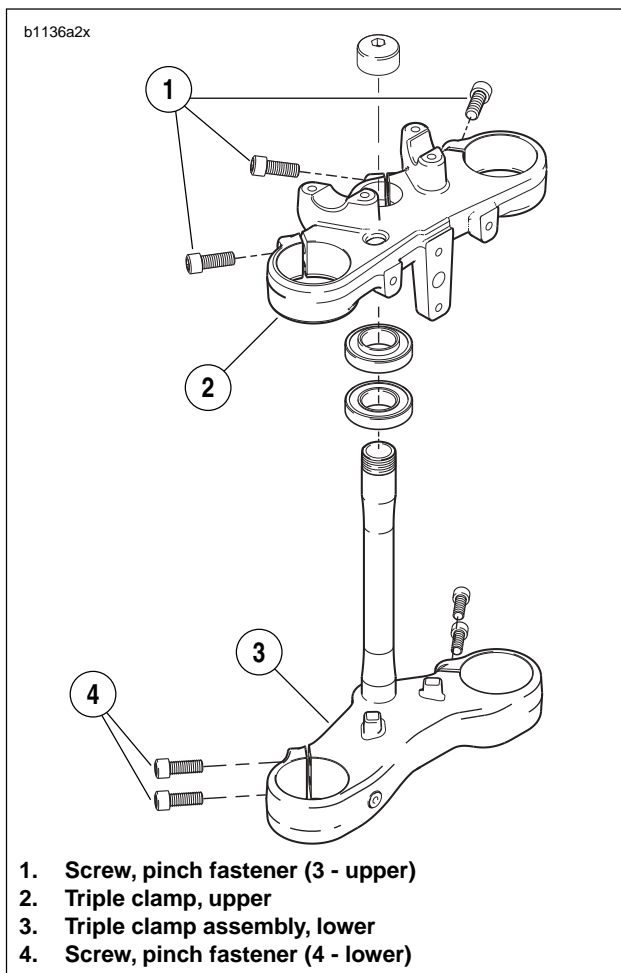

Figure 2-59. Upper and Lower Fork Clamp Assembly
4. See Figure 2-59. Loosen upper and lower fork clamp pinch fasteners (1, 4).
6. See Figure 2-59. Remove fork from lower fork clamp (3).